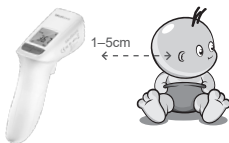

Figure 3: Alignment behind the ears
- If for some reason the low forehead temperature measurement does not work, try to align the thermometer behind the ears. See figure 3.